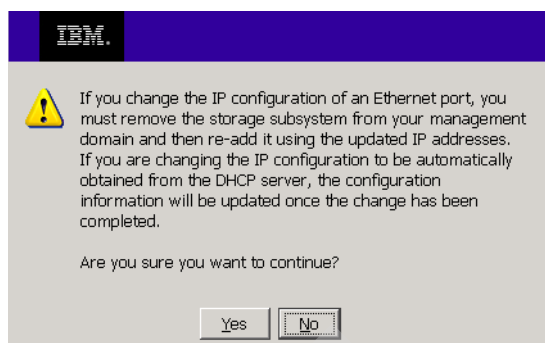

Figure 12-29 Confirm change network configuration
6. A warning will appear (Figure 12-29) that, after changing the network configuration, your storage subsystem may not be discovered in the Enterprise view. Read it and click **Yes** to confirm.